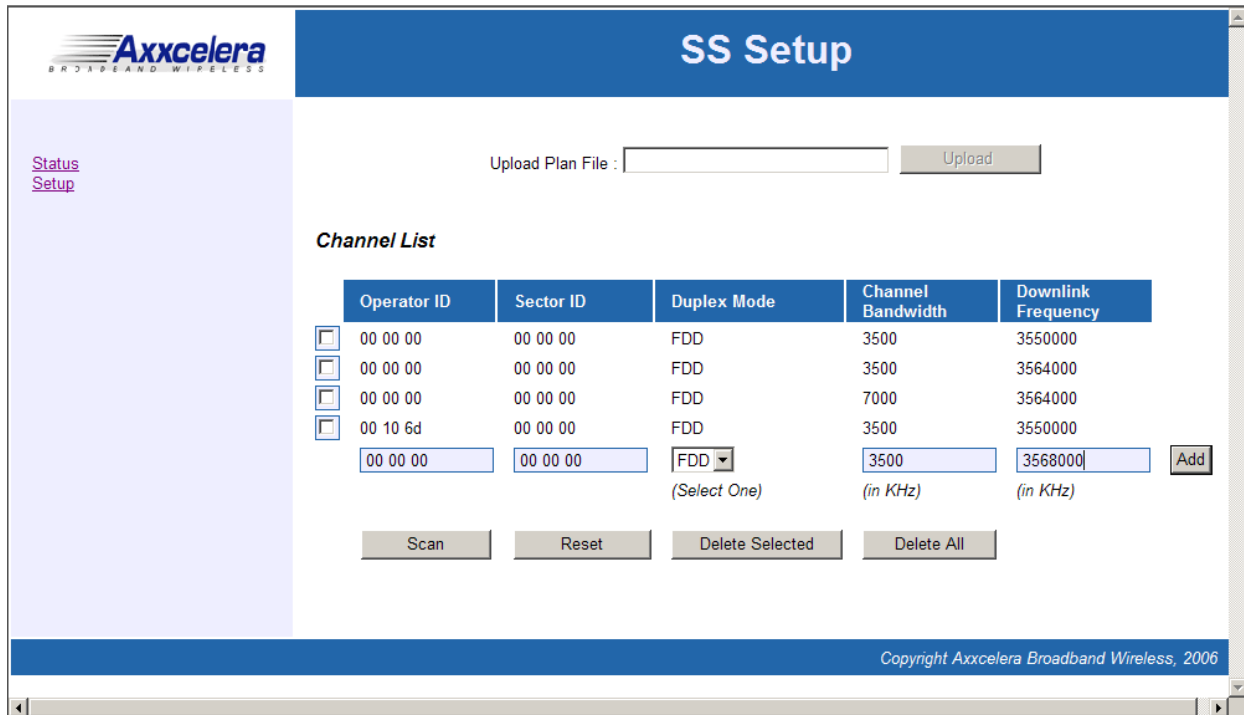

Figure 9-1 CPE Setup screen
- 5) When the **Setup** screen appears (Figure 9-1), you can build your Channel List by adding new frequencies, or by uploading a plan file.